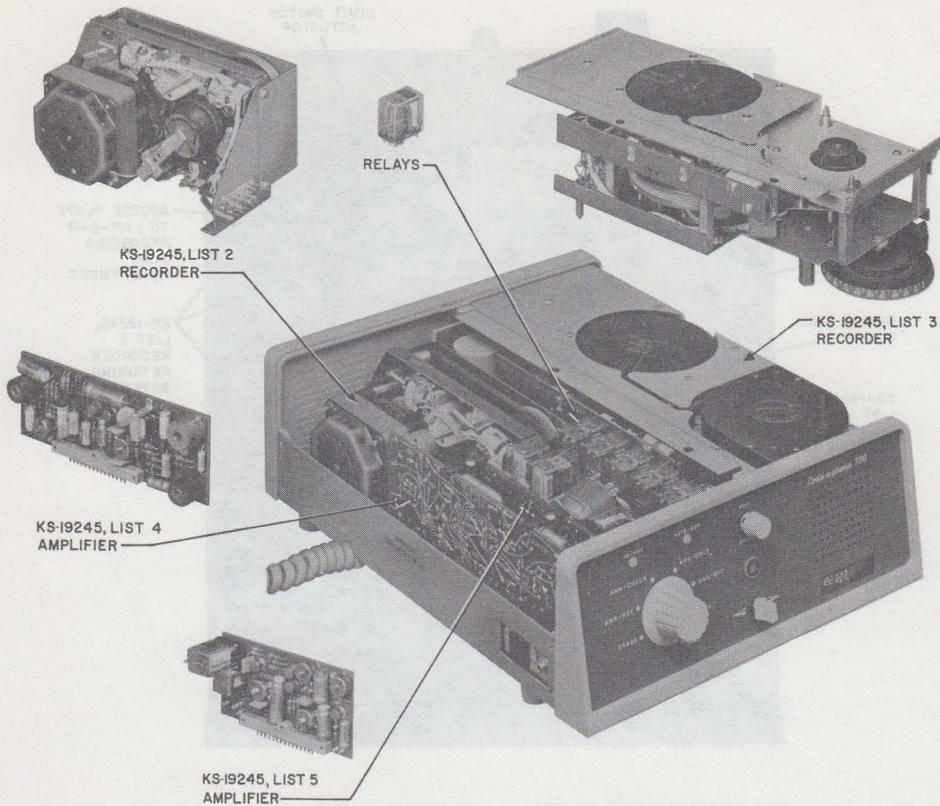

Fig. 3—KS-19245, List 1 Telephone Answering Set Top Cover Removed
- (1) Remove top cover:
- (2) Remove List 2 recorder (Fig. 3):
- (1) Remove List 6 cartridge, as described in 5.01.
- (2) Remove four screws and remove side cover.
- (3) Remove top cover, 2.01.
- (4) Remove List 3 recorder (Fig. 3):
- (1) Remove top cover of answering set (2.01).
- (2) Slide wire spring retainer from relay.
- (3) Remove relay from its plug-in socket (Fig. 3).